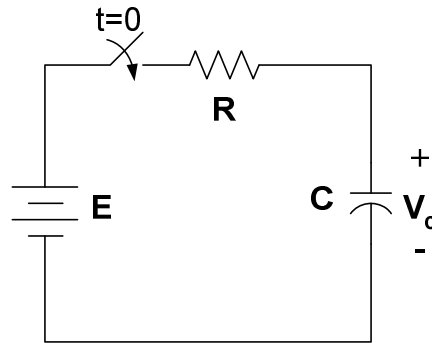

Figure 1: RC series circuit
4. Draw the Norton's equivalent of the circuit in Figure 1.
The capacitor in the circuit of Figure 1 is assumed to have no initial voltage. When the switch is closed, the capacitor begins to charge. The voltage $V_c(t)$ across the capacitor for $t=0$ is given as,